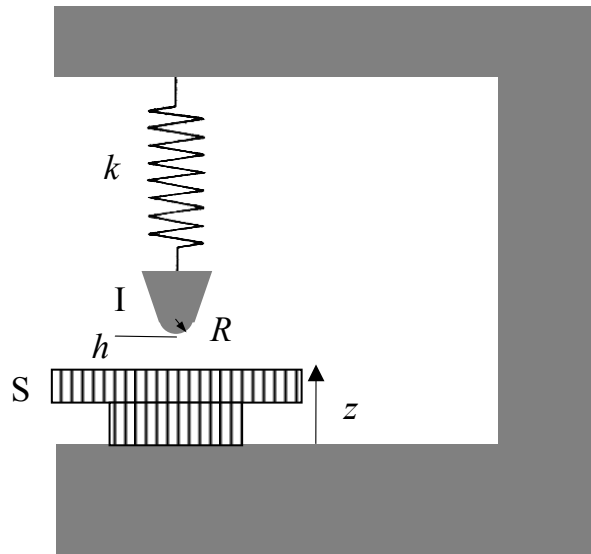

Fig. 1
- (b) A nano-indenter is shown diagrammatically in Fig. 1. The ceramic indenter I has a spherical tip of radius R and is supported by a spring of stiffness k within the frame which can be considered rigid. The specimen S, which also has a very high modulus, is brought into contact with the indenter by increasing its height z above the base of the frame. The gap h between the indenter and specimen is initially large compared to h_0 . Confirm that when the surfaces snap together, provided $h \gg h_0$, a good estimate of dimension h is